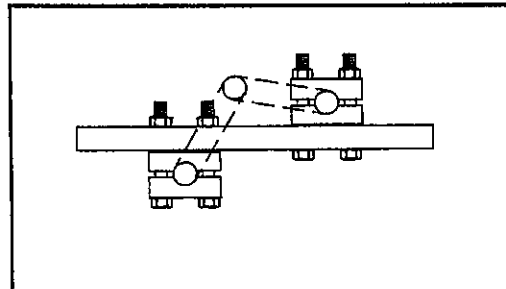

Figure 4-12 4-Bolt Mount
**4-9.4 Three-bolt Mount (see Figure 4-12)** — Two pairs of shank clamps are offset and overlapping on opposite sides of the frame member. They are attached with one 5/8" x 6-1/2" bolt, in the center of the frame, two 5/8" x 3-1/2 (on 8800/8900 models) or 4-1/2 (on 125 models) bolts on both sides, and three 5/8" nuts. See Step 4-9.6 (a, b, and c) to complete this setup.
**4-9.5 Four-bolt Mount (see Figure 4-12)** — Two pairs of shank clamps are offset and separate on opposite sides of the frame member. They are attached with four 5/8 in. x 3-1/2 (on 8800/8900 models) or 4-1/2" (on 125 models) bolts and nuts. See Step 4-9.6 (a, b, and c) to complete this setup.